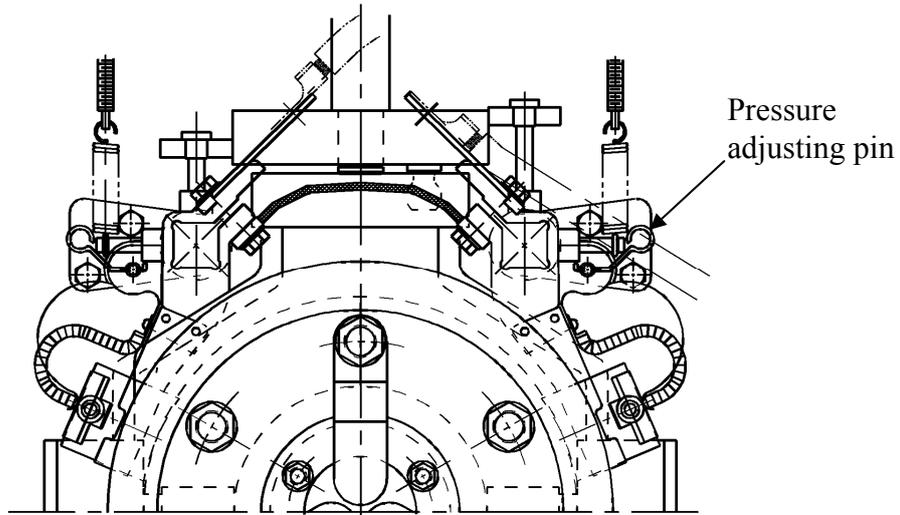

Fig. 25
- The brush pressure may be reduced after use, so it is necessary to re-adjust. For adjustment, please turn adjusting screw, pressure adjusting pin or pressure adjusting plate as shown in Fig.25 to obtain the correct tension ($=0.23 \times \text{brush cross sectional area in cm}^2$) $\pm 10\%$ kg.